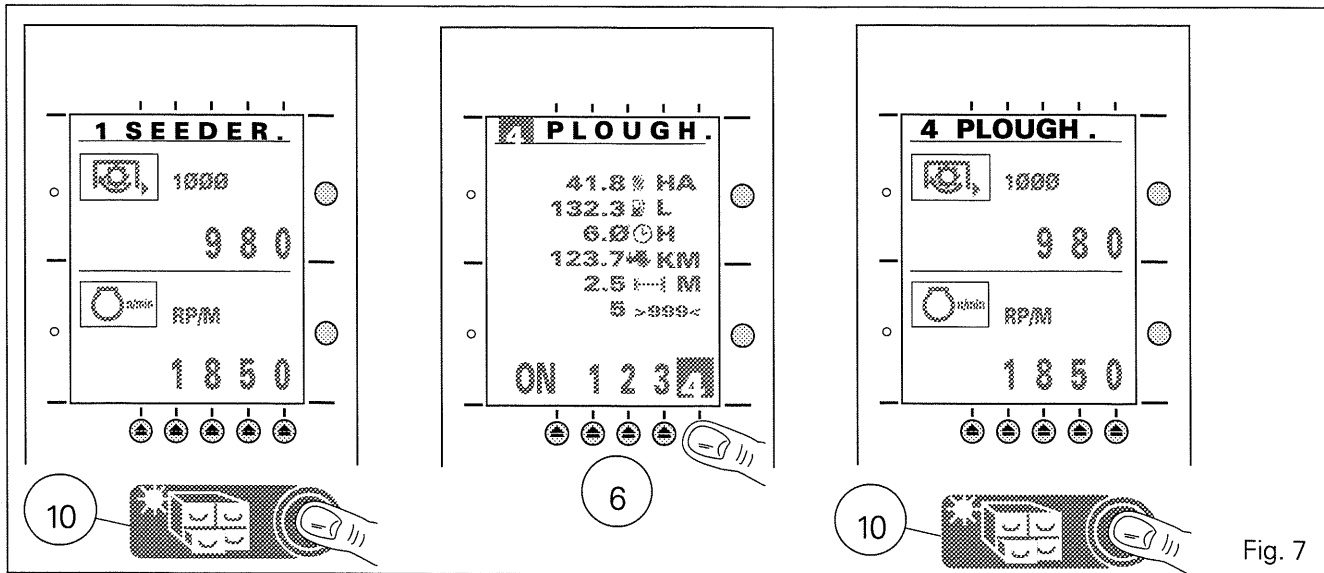

Fig. 7
Press the memory key 10 (fig. 7), then press the key 6 corresponding to the memory that you want to use for your work; *the selection appears in grey.*